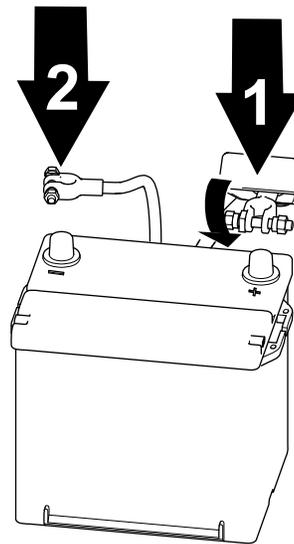

Figure 64
2. Lift the insulator and remove the positive battery cable from the battery post (Figure 64).
1. Connect the positive cable to the battery and tighten the battery-clamp nut (Figure 64).
2. Connect the negative cable to the battery and tighten the battery-clamp nut (Figure 64).